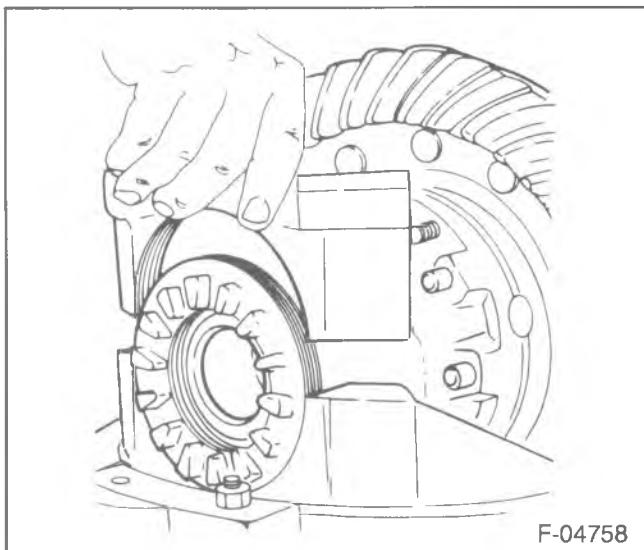

Figure 187—Installing the Bearing Caps
- 4. Bearing caps (25) (figure 187).
- 5. Cap bolts (23).